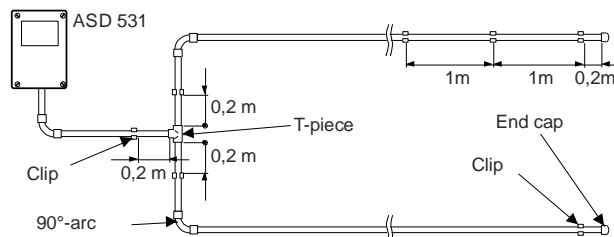

Fig. 34 90° bend, branching point
For straight layout the linear expansion can be up to **80 mm** over the total sampling pipe length (40 m) within the permitted temperature fluctuation range (20°C). It is therefore essential to ensure that the sampling pipe is able to "move" (slide) inside the clips/pipe clamps. A distance of 100 mm (0.1 m) must therefore be maintained between the last clip or fastening clamp and the end cap. See also Fig. 34
- A distance of at least 0.2 m must be maintained from the T-piece to the clips, starting from the branching points of the sampling pipe, Fig. 34.